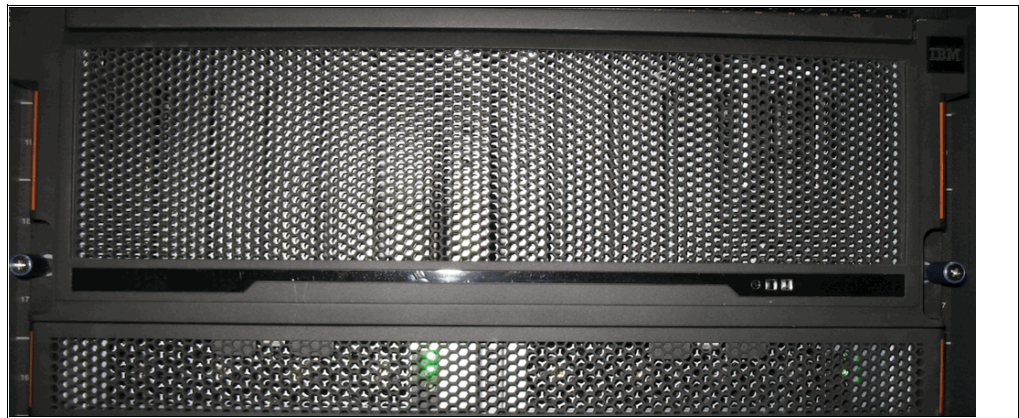

Figure 1-4 LFF HD expansion enclosure
- Large form factor high density (LFF HD). Figure 1-4 shows the large form factor high density (LFF HD) expansion enclosure that can hold ninety-two 3.5” drives (or ninety-two 2.5” drives in carriers) and is 5U high.